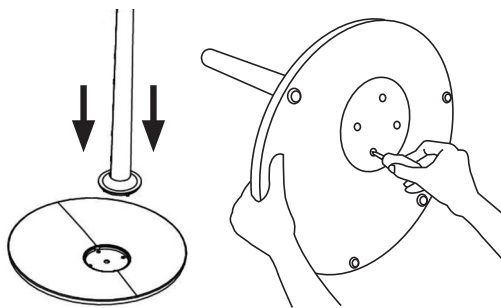

Fig.2
- ♦ Insert the upper stand tube (N) into the lower stand tube (O) by hand near the thread zone and turning it in a clockwise direction (Fig.2).